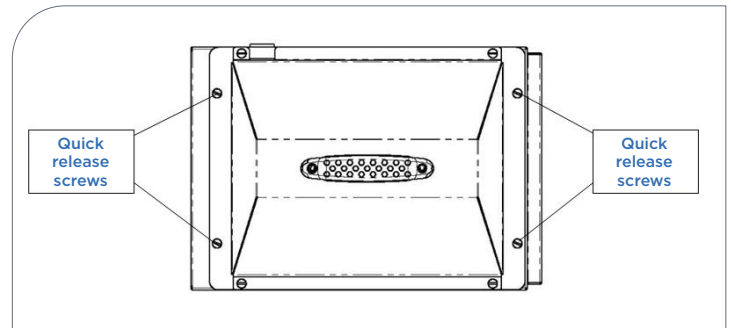

Figure 2: IDI™ Unit quick release screws
4. Remove four quick release screws holding IDI™ Unit to duct or enclosure (see Figure 2).
10. Reinstall the IDI™ Unit in the duct/enclosure and install quick release screws (see Figure 2).